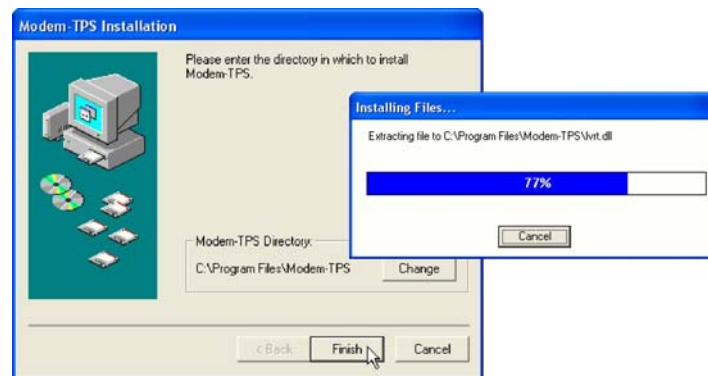

Figure 2-2. Select **Modem-TPS** Installation Location and Install
2. Keep the default installation location or select a new location. Click Finish (Figure 2-2).